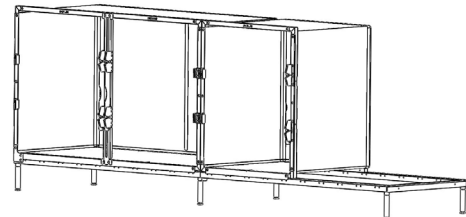

FIGURE 2.21 - Row 1, Cage 2
STEP 9: Lift and set the second cage into place on the platform. See FIGURE 2.21